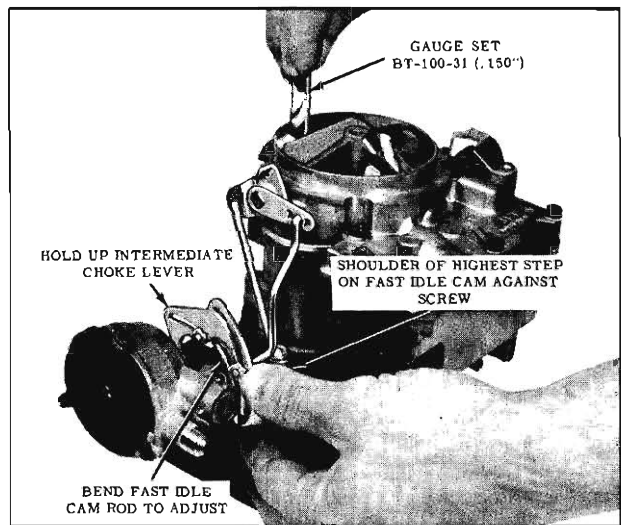

Fig. 4-49 Fast Idle Cam Rod Adjustment
2. Hold up on the intermediate choke lever so that the shoulder of the highest step of the fast idle cam is against the fast idle speed screw. Check the clearance between top edge of the choke valve and the air horn at the rear edge, using Gauge Set 100-31 (.150"). Make sure the intermediate choke rod is at the bottom of its slot in the intermediate lever. (Fig. 4-49)